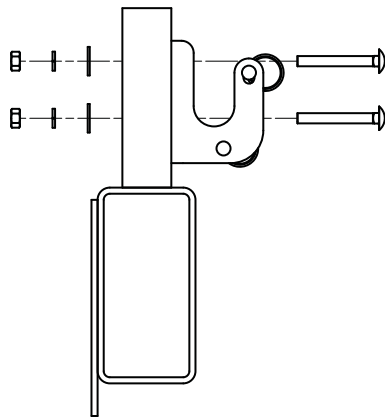

Figure 47
- 3b) **Figures 47 & 48.** Drill a pilot hole and attach with 3/8 x 2-1/2 carriage bolts.